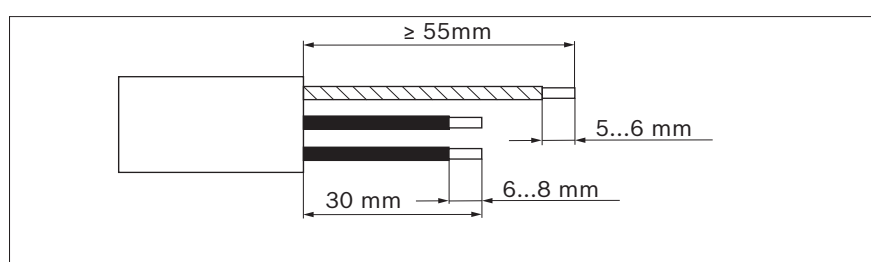

Fig. 5: Stripping lengths
4. Assemble the cable and line entry as displayed in figure 5 "Cable and line entry".